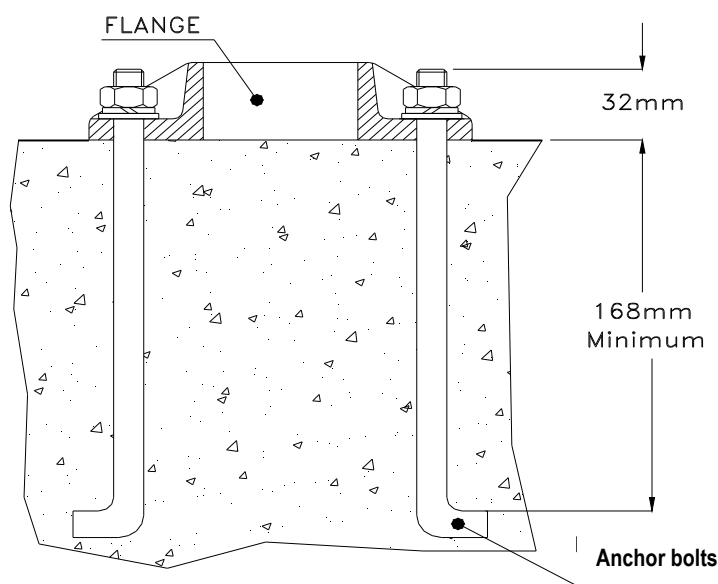
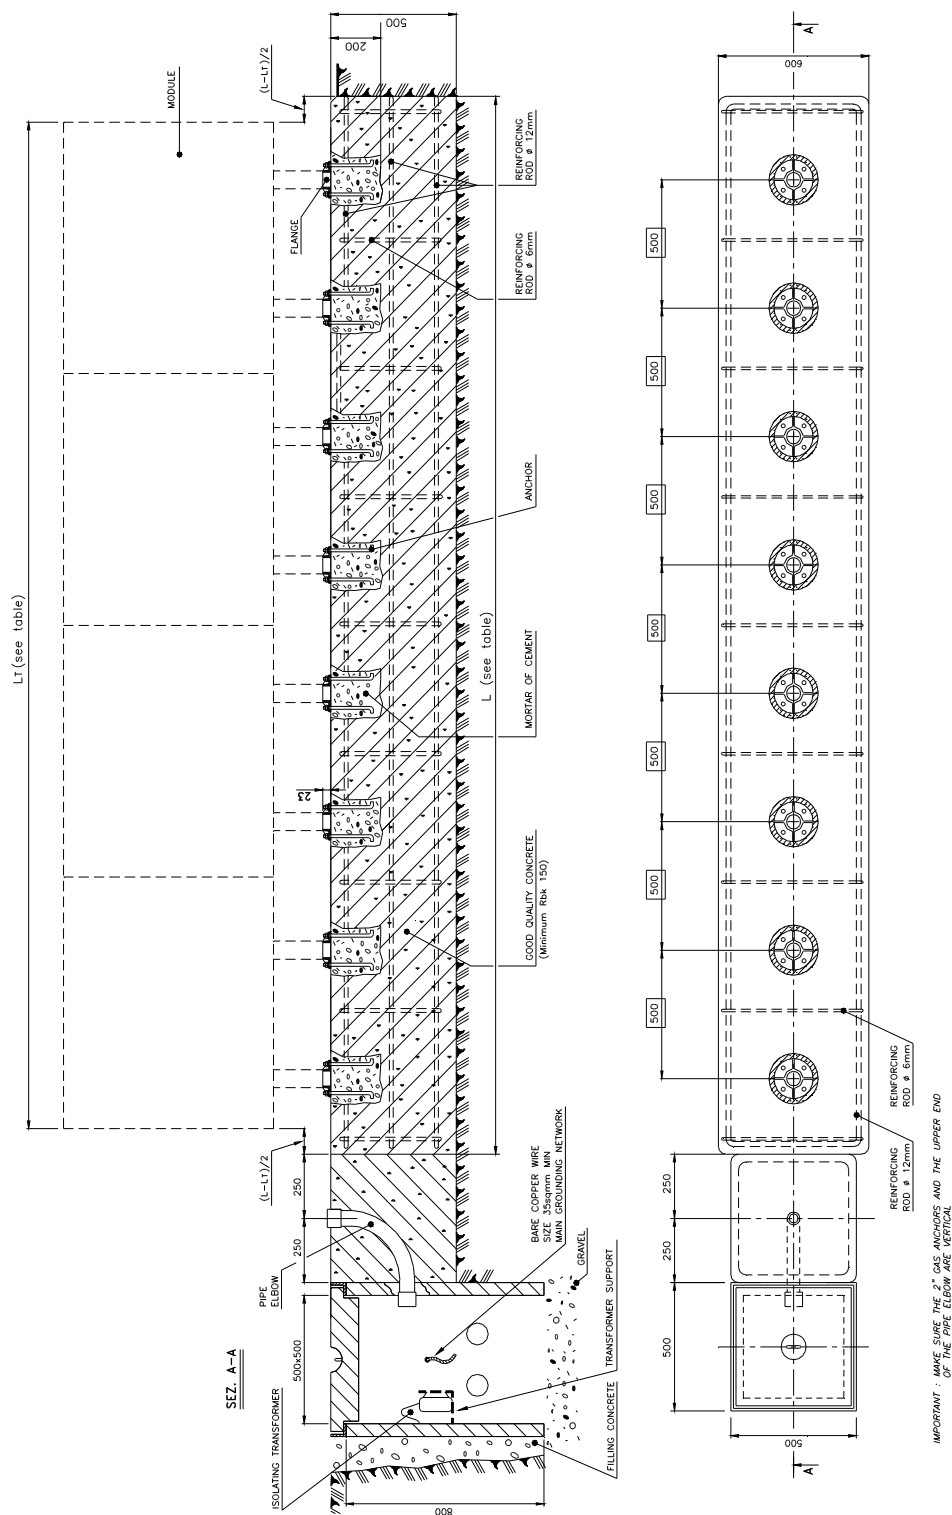

Figure 4 - HIGS Luminous Signs - Flange Installation with anchor bolts
Figure 5 - HIGS Luminous Signs - Concrete Foundation
- d) The concrete foundation for the sign should be flat and levelled. Refer to *Figure 5* for relevant data. The isolating transformer must be placed inside a concrete pit complete with pipe elbow for the secondary cable passage or inside a steel base complete with upper plate with G 2" threaded coupling for the plug-socket connection.
- e) It is recommended that the anchor bolts, used for the flange anchoring, are mounted after the completion of the concrete foundation. The anchor bolts have to be walled accurately as shown in *Figure 5* and *Figure 4* and in manner to assure the parallelism of the centreline marked on the flange and the sign centreline.